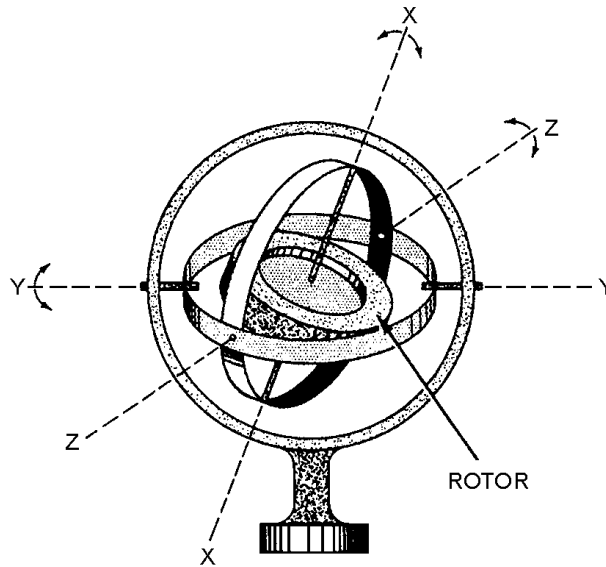

Figure 3-1.—Gyro model, universally mounted.
Any rapidly spinning object—a top, a wheel, an airplane propeller, or a spinning projectile—is fundamentally a gyroscope. Strictly speaking, however, a gyroscope is a mechanical device containing a spinning mass that is universally mounted; that is, mounted so it can assume any position in space. Figure 3-1 shows a model of a gyro. As you can see, a heavy wheel (rotor) is mounted so that its spin axis is free to turn in any direction. The wheel spins about axis X; it can turn about axis Y, and it can turn about axis Z. With this mechanical arrangement, the spinning wheel can assume any position in space.
- Q-2. *In the drawing in figure 3-1, which axis is the gyro spin axis?*